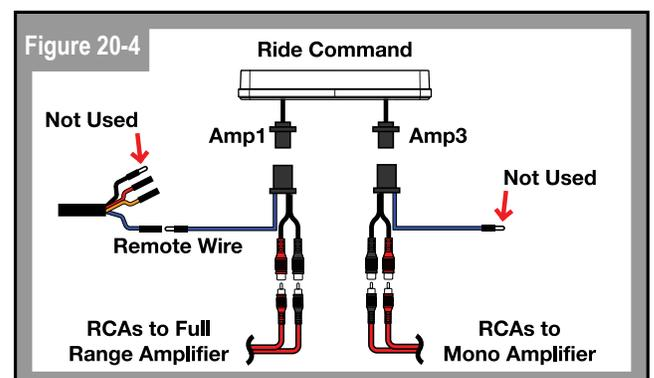

Figure 20-4
Route and connect AMP1 blue wire (remote amp turn on) from the adapter to the blue wire in audio system's four-wire source unit harness. Only the blue wire connects. The three remaining wires are not used in a Ride Command application. See Figure 20-4.
Route and connect the RCA audio cables from the AMP3 adapter to the NA2-400.1 mono subwoofer amplifier. See Figure 20-4.
Route and connect the RCA audio cables from the AMP1 adapter to the NA2-400.2RC two-channel full range amplifier. See Figure 20-4.
Carefully place the amplifier plate into position as shown in Figure 20-4. Be sure the wiring harness and connectors are all intact and nothing has come unplugged.
- **if you have the Dynamix® ECU and/or OEM amplifier bracket** - Tighten the remaining two (2) 10mm bolts to securely mount the dual amp plate. This is shown in Figure 20-4.
- **If NO Dynamix® ECU or OEM amplifier bracket** - Secure the dual amplifier plate. Simply substitute the (2) 10mm screws in Figure 20-4 and use the two (2) T40 screws provided with the MB Quart Stage 3 kit to securely mount the dual amp plate